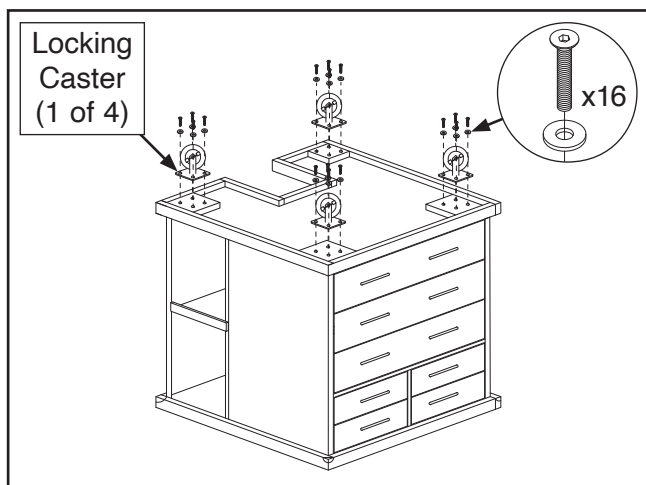

Figure 3. Attaching locking swivel casters.
2. Attach (4) locking swivel casters to cabinet base with (16) $\frac{1}{4}$ "-20 x $\frac{3}{4}$ " flat head cap screws and (16) $\frac{1}{4}$ " flat washers, as shown in **Figure 3**.